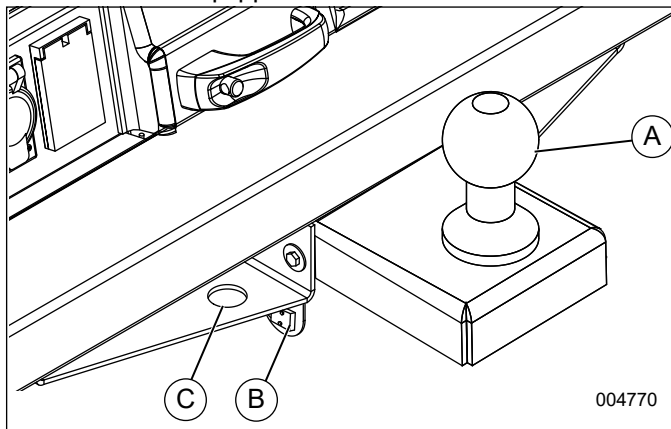

Figure 3-53. Tandem Tow
See Figure 3-53. The tandem tow hitch option (A) allows the operator to tow a second MLTS Light Tower in series behind the unit equipped with the hitch.